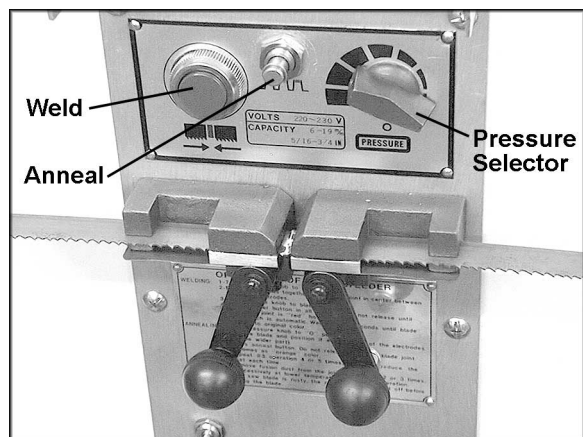

Figure 19
6. Insert one end of the blade in the left clamp (Figure 19). Position the back edge of the blade against the back edge of the left clamp. Then position the end of the blade midway between the left and right clamps. Tighten the left clamp.
9. Press and hold the weld button (Figure 19). When the weld button is pushed, the clamps move together to apply pressure to the blade ends. At the same time, sparks will come from the blade ends as they are being welded. Do not release weld button until the blade joint is "red hot."
16. The annealing procedure involves “jogging” (pressing and releasing) the anneal button (Figure 19).